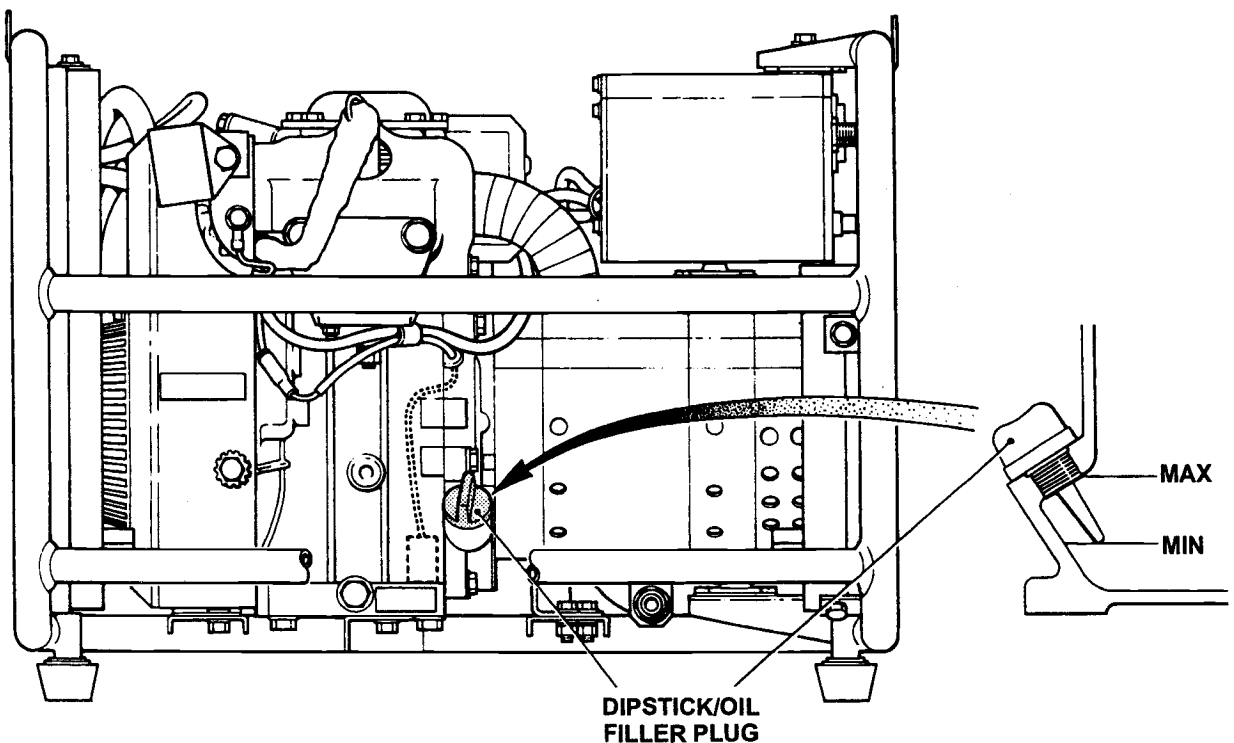
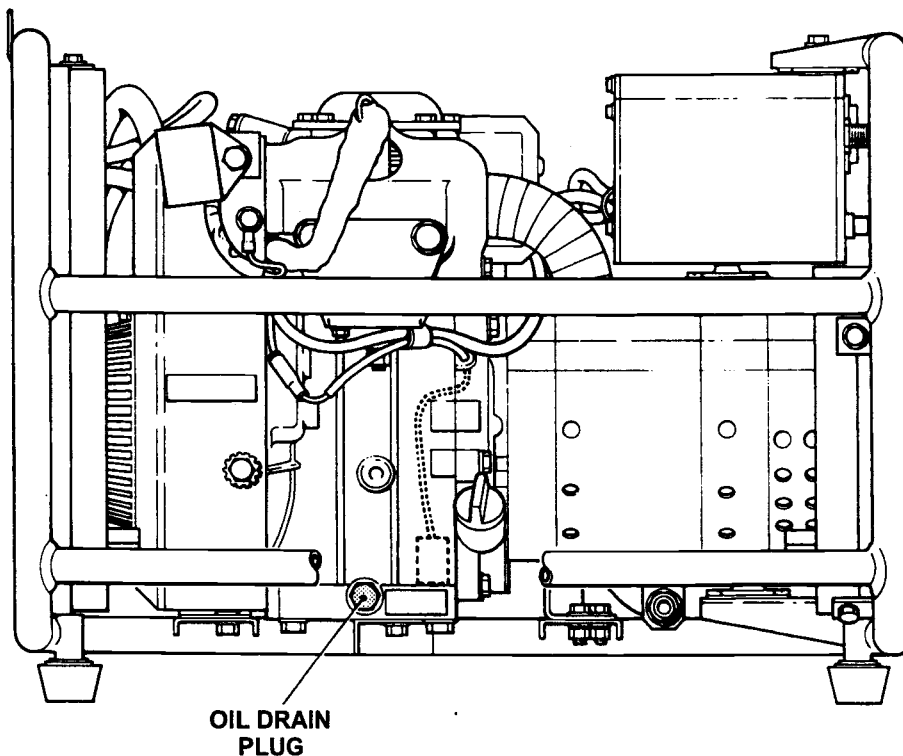

Fig 1 Engine oil levels
Fig 2 Draining the engine lubricating oil
- 16.5 Check where the oil level is in relation to the maximum and minimum requirements shown in Fig 1 and, if necessary, top up using the approved oil type (Table 3).
18.2 Remove the dipstick/oil filler plug (Fig 1) and oil drain plug (Fig 2).
18.5 Refill the engine with new oil of the correct type (Table 3) to the correct level (Fig 1) and replace the dipstick/oil filler plug.